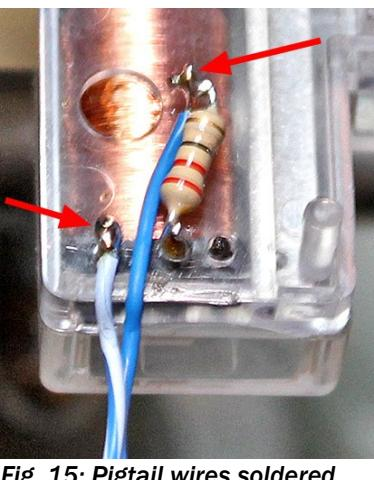

Fig. 15: Pigtail wires soldered.
- Use needle nose pliers to wrap the hooked end of the longer "pigtail" wire you cut earlier around the remaining bent lead on the 22-ohm resistor. If you didn't glue the resistor as recommended above, be very careful not to rotate the resistor and the motor terminal more than a few degrees. The resistor acts as a "handle" that easily rotates the terminal. Run the wire between the two motor terminals at the edge of the movement housing to the resistor lead near the hole in the housing (blue wire, upper arrow in **Fig. 15**). Solder the wire to the resistor lead.
- Use needle nose pliers to wrap the hooked end of the shorter pigtail wire around the left-hand motor terminal (white/blue wire, lower arrow in **Fig. 15**), and solder it.